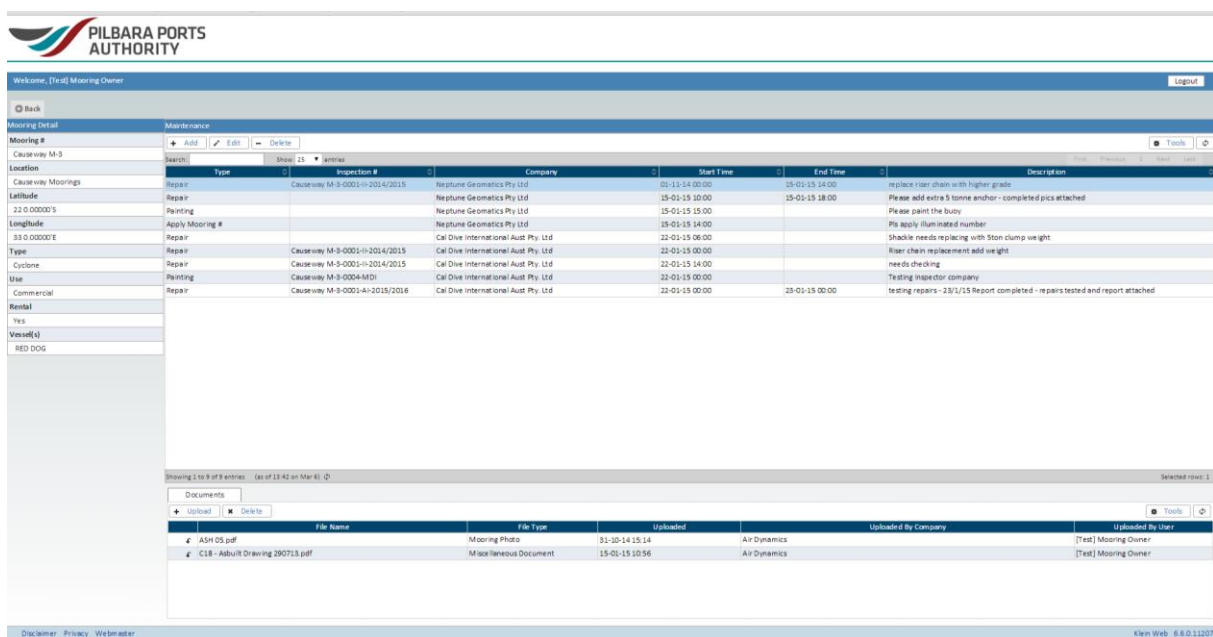

Figure 13.5
- Once you open this, figure 13.5 below will appear.